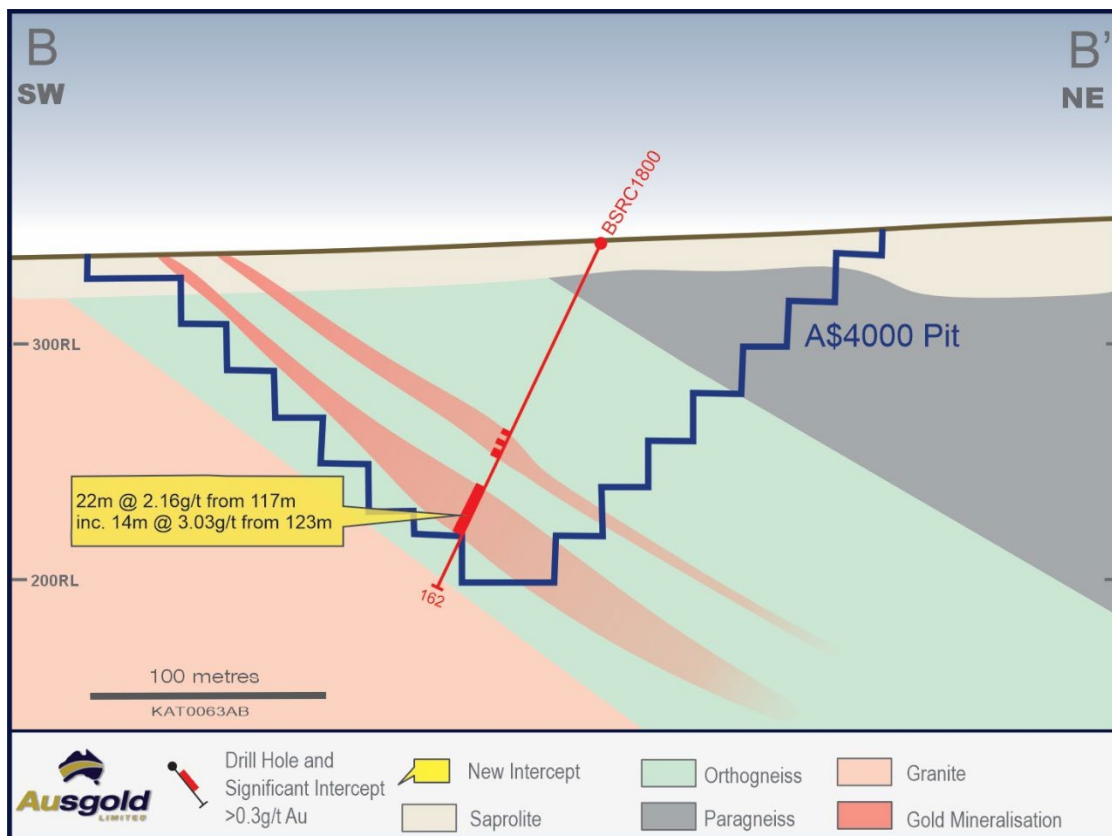

Figure 4– Cross-section B-B' across Dingo (20m window)
- 22m @ 2.16g/t Au from 117m including 14m @ 3.03g/t Au from 123m in BSRC1800 (Figure 4)